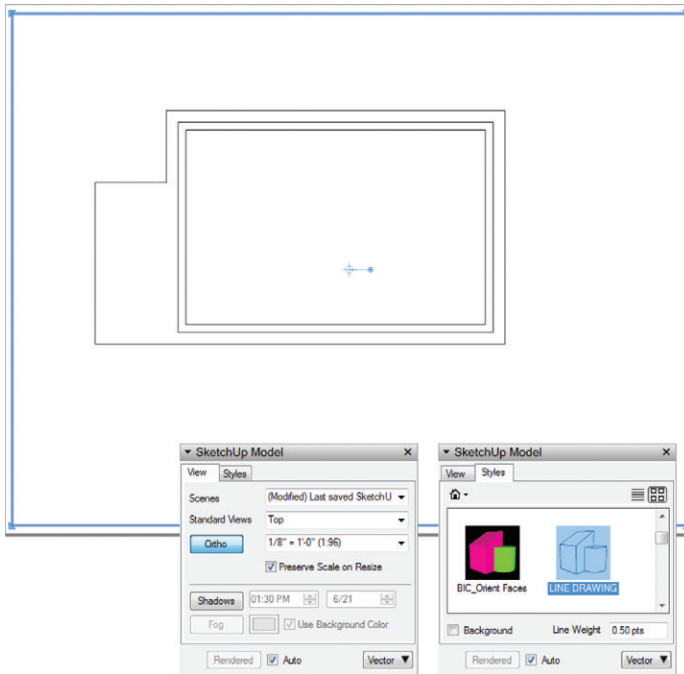

Figure 17.6 The adjusted viewport and the SketchUp Model Inspector
4. Select the new generic viewport and adjust the properties in the SketchUp Model Inspector, as shown in Figure 17.6.